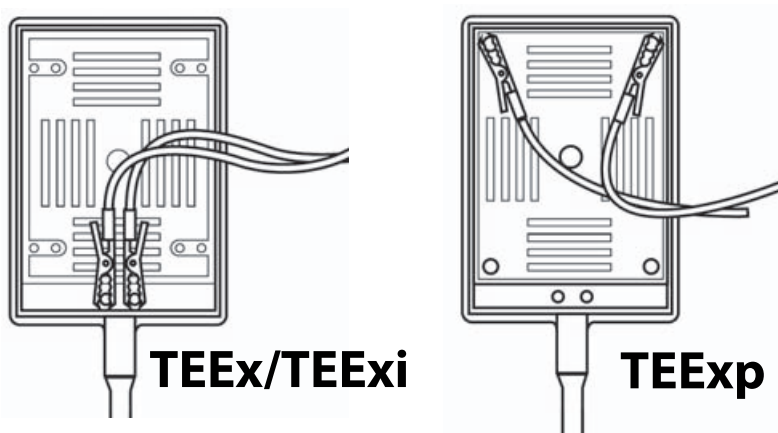

Figure 3 Transducer connector attachment
- c Connect the red leads to the knurled socket cap screws on the transducer connector as shown in **Figure 3**. The configuration of the leads depends on the model of transducer you have. See step 2b to determine your transducer model.